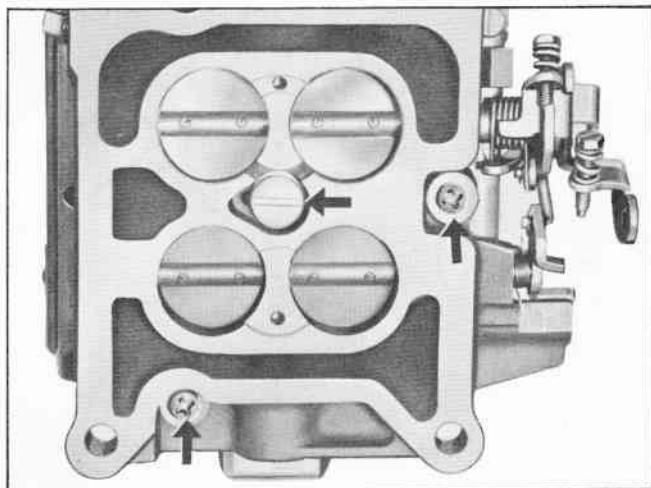

Fig. 15 Throttle Flange Attaching Screws
1. Remove four throttle flange attaching screws and lockwashers and remove throttle flange (Fig. 15).